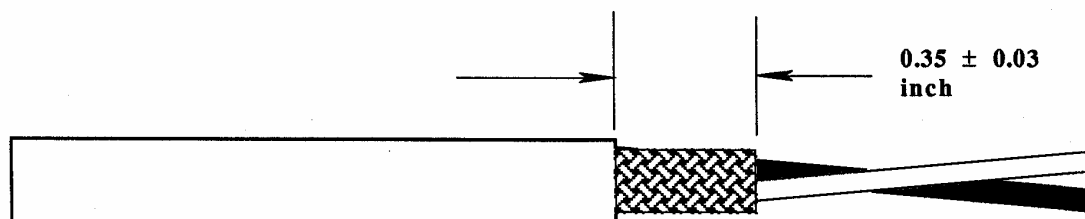

Figure 5-5. Cable Jacket Final Stripping
4. Strip the cable jacket as shown in Figure 5-5.